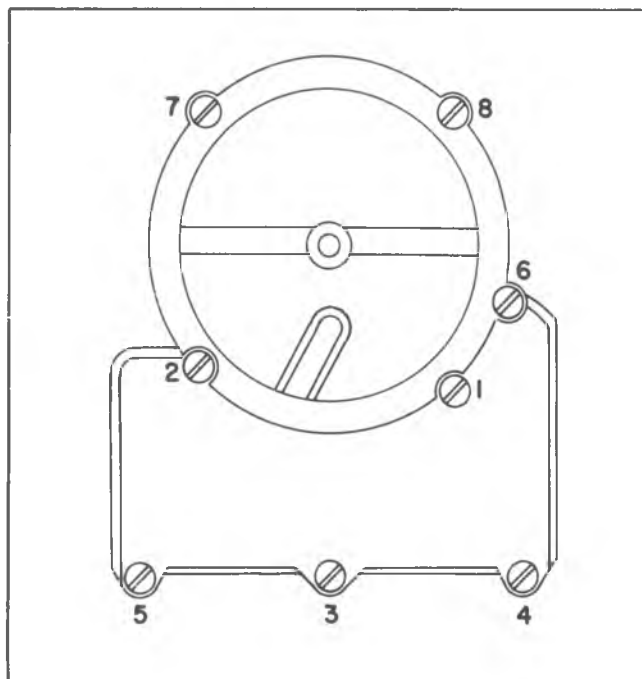

Fig. 12C—Air Horn Tightening Sequence
2. Install lockwashers and tighten eight air horn attaching screws evenly and securely (Fig. 12C).